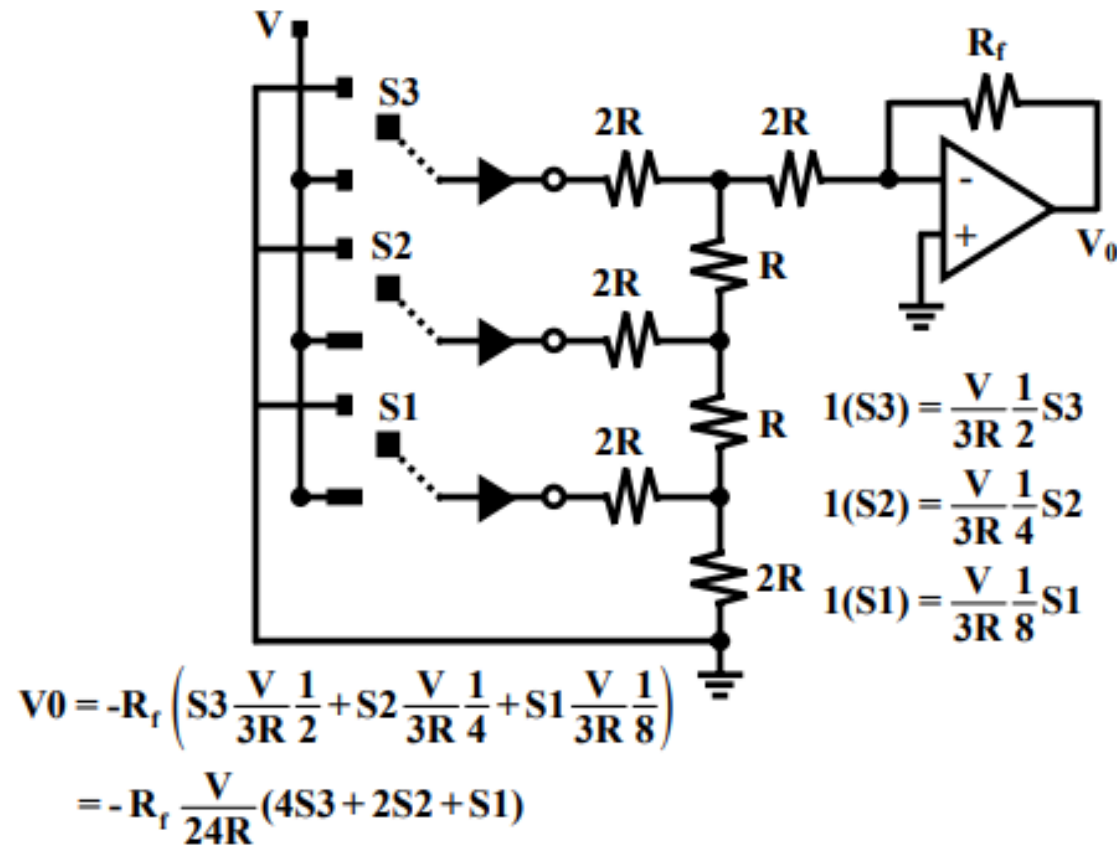

Fig.5(b) R-2R ladder D-A conversion circuit
- Fig.5(a) shows the weighted averaging method for a 3-bit converter.
- Fig.5(a) The binary weighted register method
- Fig.5(b) depicts the R-2R ladder network.
- The output of the above circuits as given in Fig.5(a) and 5(b) is equivalent analog values as shown in Fig.4(a).